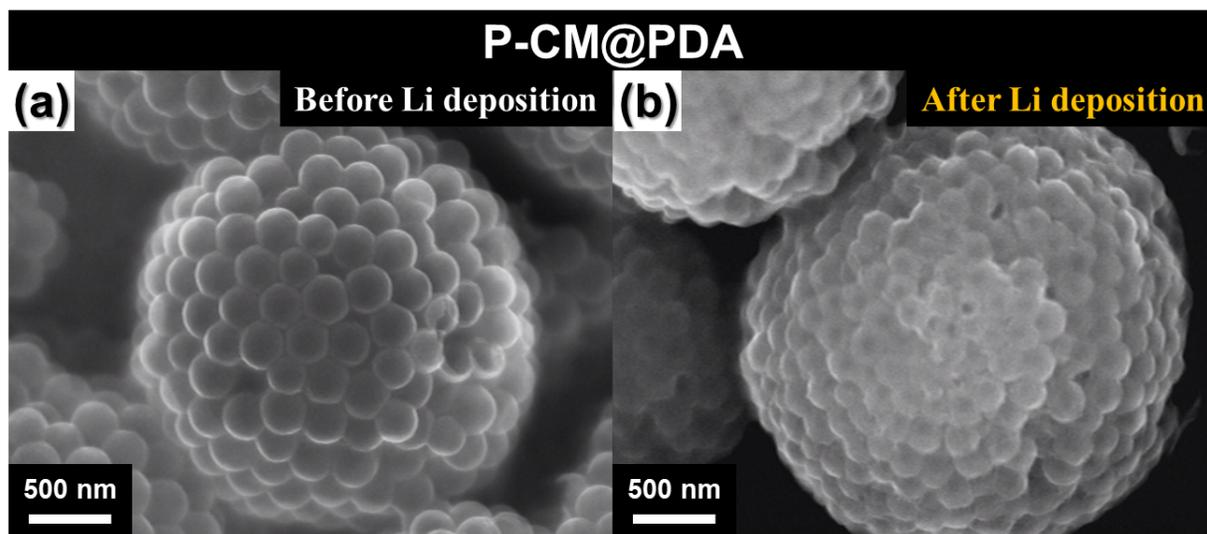

Figure S3 SEM images of P-CM@PDA before (a) and after (b) Li deposition.
- **Figure S3** SEM images of P-CM@PDA before (a) and after (b) Li deposition.